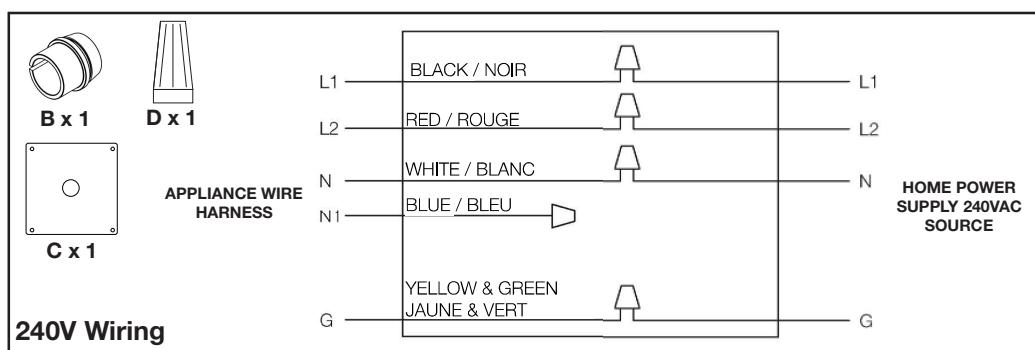

Fig. 4-2
- Install the new strain relief (supplied) (**Fig. 4-2**) into the new cover plate (supplied) and feed the 14/3 conductor wire through the strain relief.